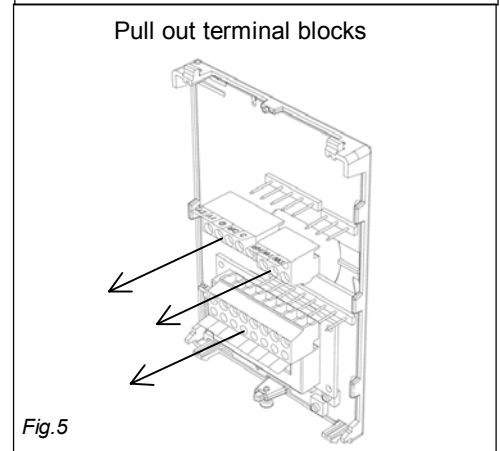

Fig.5
- 10- Pull out the screw terminal blocks using the pull tabs on each connector. **(Fig. 5)**
- 13- Gently push back into hole excess wiring **(Fig. 5)**